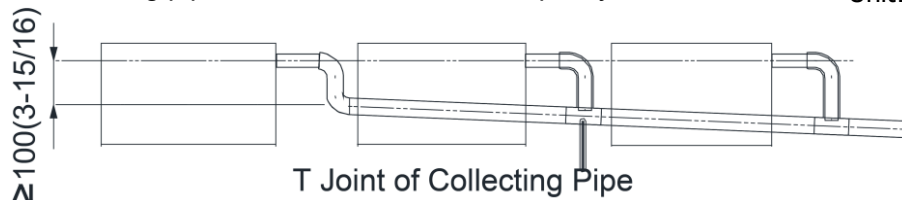

Fig 9.3.4
- (4) When connecting several drain pipes, follow the instruction as indicated in Fig 9.3.4.